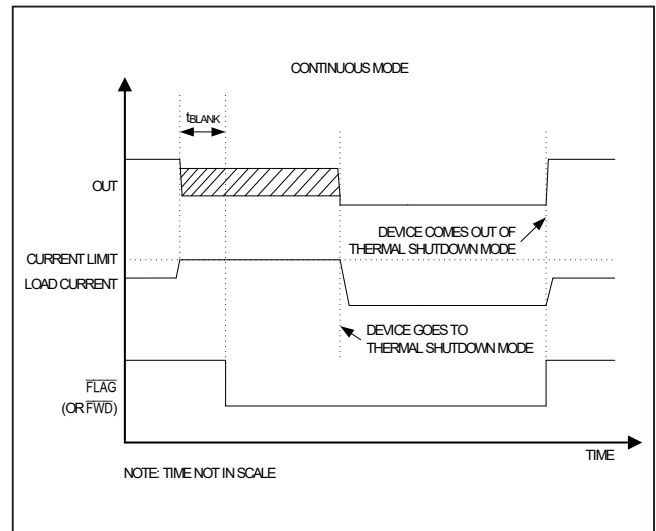
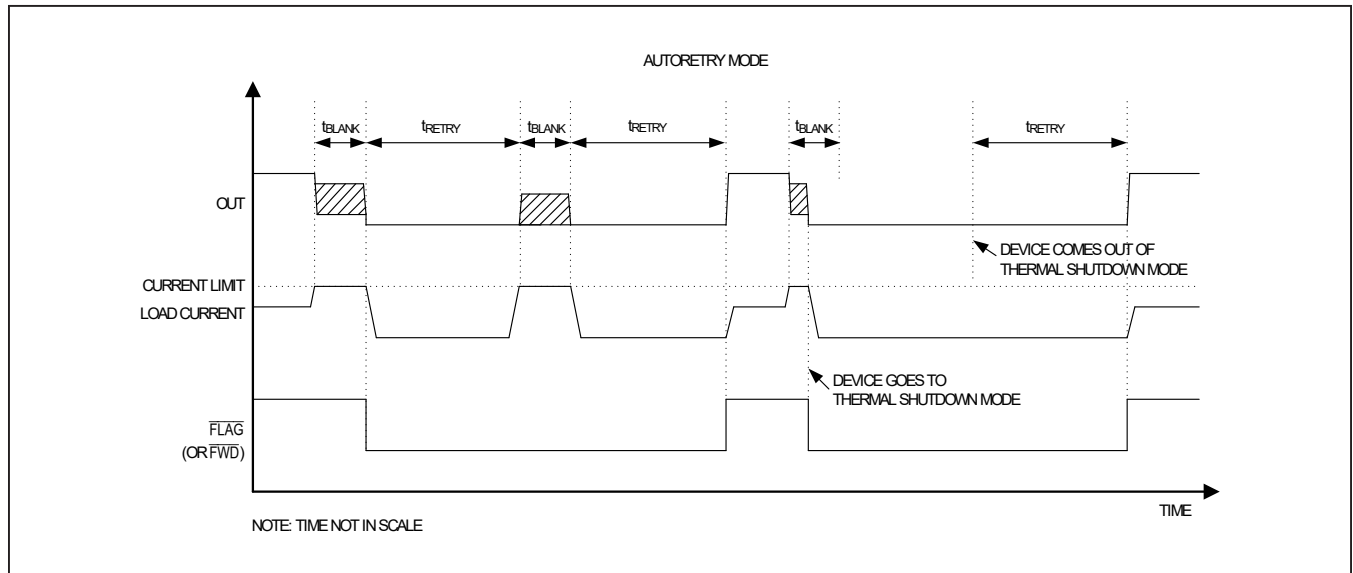
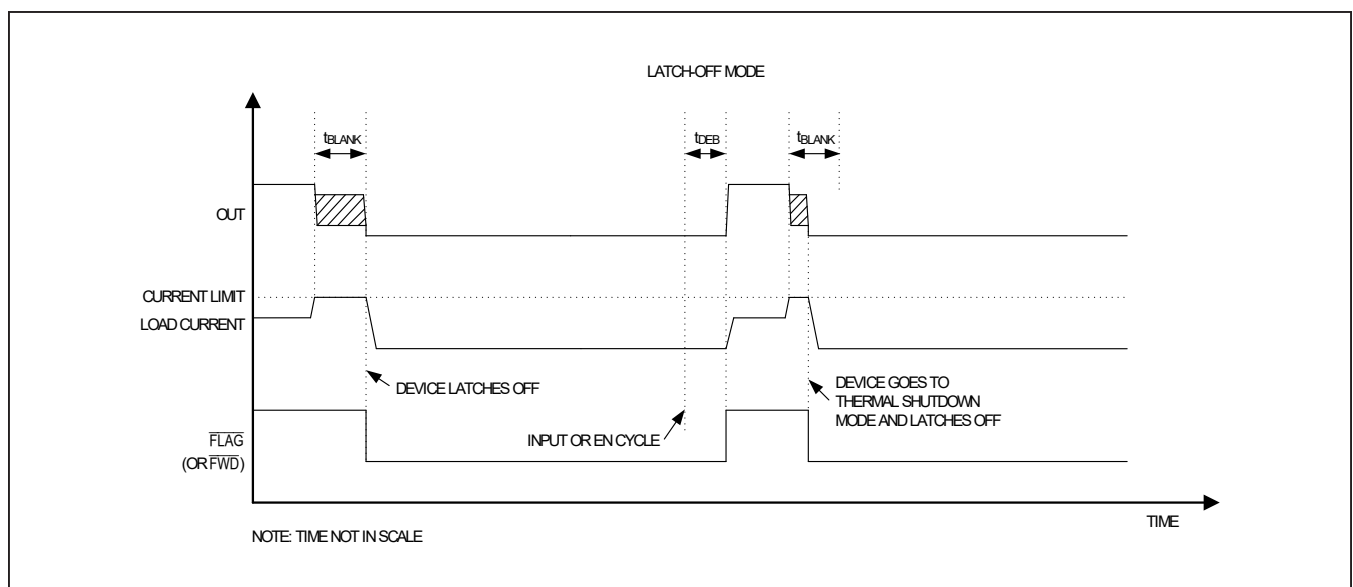

Figure 4. Continuous Fault-Timing Diagram
Figure 3. Autoretry Fault-Timing Diagram
Figure 5. Latch-Off Fault-Timing Diagram
With a 40ms (typ)  $t_{BLANK}$  and 600ms (typ)  $t_{RETRY}$ , the duty cycle is 6.25%, resulting in a 93.75% power reduction when compared to the switch being on the entire time. Figure 3 depicts typical behavior in the autoretry current-limit mode.
In continuous current-limit mode, when current through the device reaches the current limit threshold, the device limits output current to the programmed current limit. The  $\overline{FLAG}$  (or  $\overline{FWD}$ ) pin asserts if overcurrent condition is present for  $t_{BLANK}$  and deasserts when the overload condition is removed. Figure 4 depicts typical behavior in the continuous current-limit mode.
In latch-off current-limit mode, when current through the device reaches the current-limit threshold, the  $t_{BLANK}$  timer begins counting. The  $\overline{FLAG}$  (or  $\overline{FWD}$ ) pin asserts if an overcurrent condition is present for  $t_{BLANK}$ . The timer resets when the overcurrent condition disappears before  $t_{BLANK}$  has elapsed. The switch turns off and stays off if the overcurrent condition continues beyond  $t_{BLANK}$ . To reset the switch, either toggle the control logic (EN) or cycle the input voltage. Figure 5 depicts typical behavior in latch-off current-limit mode.
The thermal limit behaves similarly to the current limit. In autoretry mode, the thermal limit works with the autoretry timer. When the junction temperature falls below the falling thermal-shutdown threshold, devices turn on after the retry time. In latch-off mode, the devices latch off until power or EN is cycled. In continuous mode, the devices only disable while the temperature is over the limit. There is no blanking time for thermal protection. Figure 3, Figure 4, and Figure 5 depict typical behavior under different current limit modes.